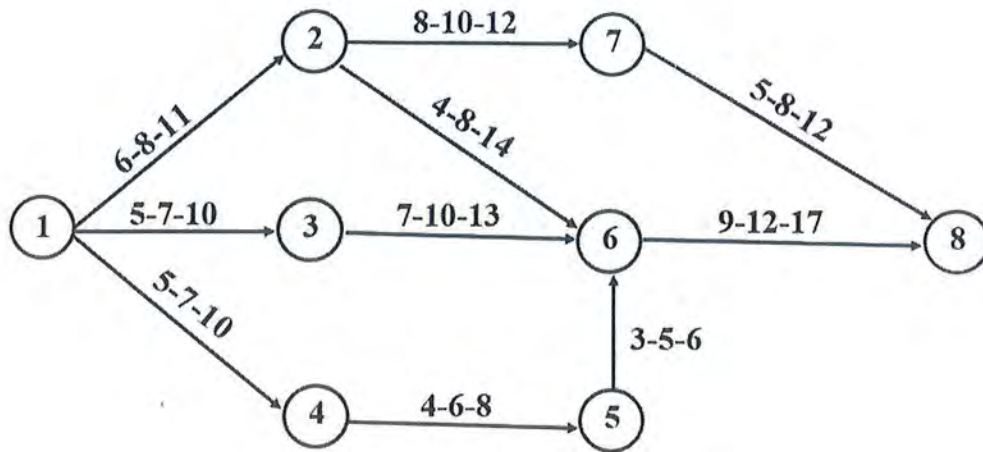

Figure 1
4. The network diagram for a certain project is shown in the Figure 1. Apply PERT network analysis technique to determine the followings: